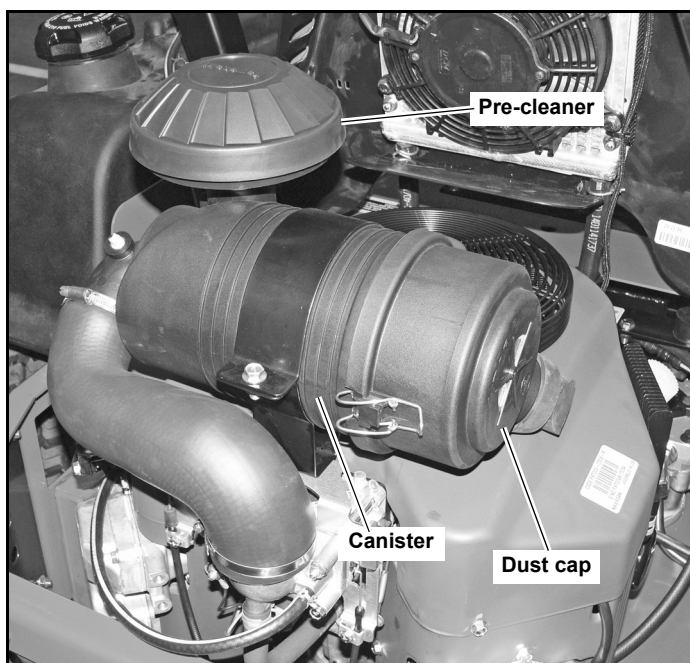

Figure 4-7
A specially designed dry filter is standard equipment on these mowers and supplies clean combustion air to the engine. Figure 4-7
3. Reinstall the dust cap. Make sure it seals all the way around the air cleaner body, then tighten the clamps. Figure 4-7